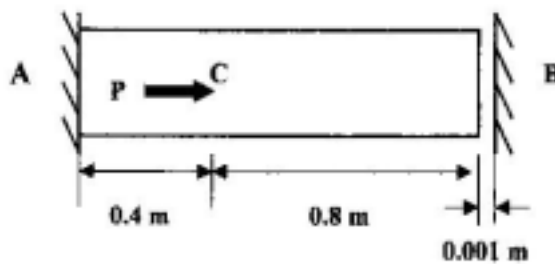

Figure 1.
1. The rod shown in figure 1 has cross-sectional area of 40 m^2 . It is attached to the fixed wall at A, and before it is loaded there is a gap between the wall at B and the rod 0.001 m .